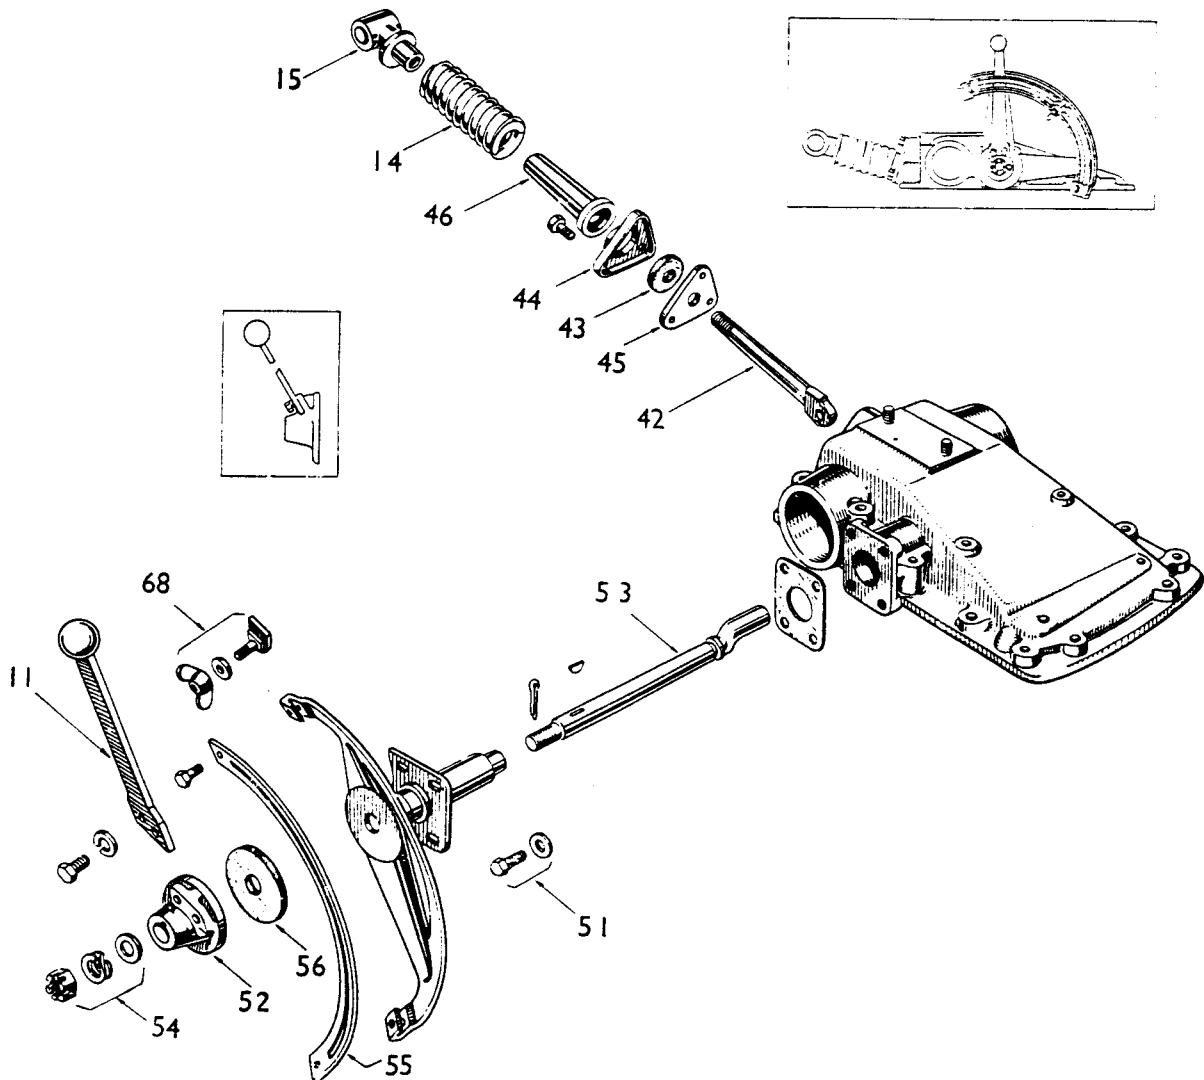

FIG. 20
**NOTE :—**The control spring fork is connected by pin (41) at the rear, to the control spring assembly (see Fig. 20, item 42).
## CONTROL SPRING ASSEMBLY (FIG. 20)
## TO REMOVE AND DISMANTLE QUADRANT ASSEMBLY (FIGS. 20 AND 21)